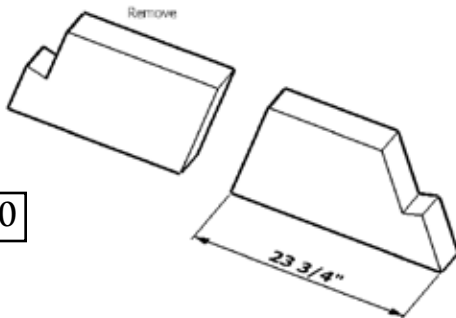

FIGURE 40
**Step 18:** Cut each of the remaining two smoke dome medium pieces, part 11, at an angle cut that is parallel to the un-cut end and so that its bottom length is 23 3/4" (Figure 40).